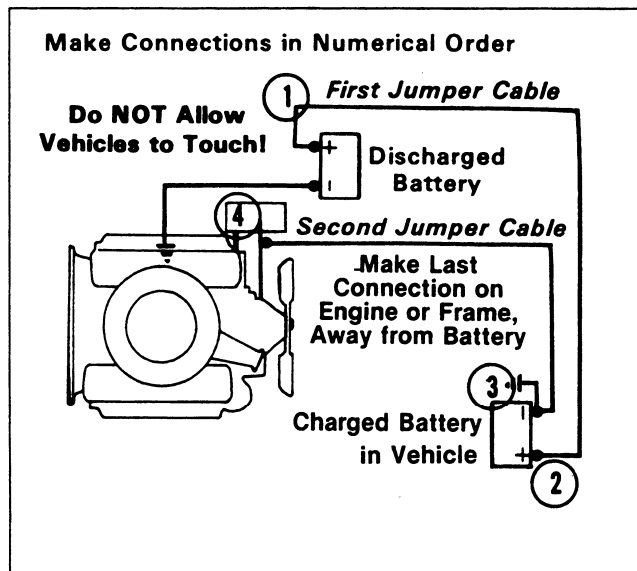

Figure 9. Jump Starting Diagram
3. Make sure the cable clamps do not touch any other metal parts. Clamp one end of the first booster cable to the positive “+” terminal on one battery, and the other end to the positive terminal on the other battery. Never connect “+” to “-” (figure 9.)